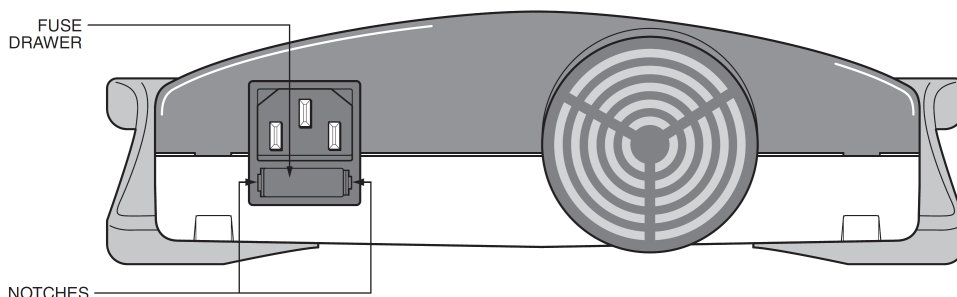

Figure 7. Rear view showing fuse drawer with notches
2. Use a fingernail or a flat blade screwdriver to gently press the tabs on the side of the fuse holder toward each other. This will release the fuse holder and the fuses. See Figure 7. Inspect the fuses visually to determine if one or both of the fuses failed.